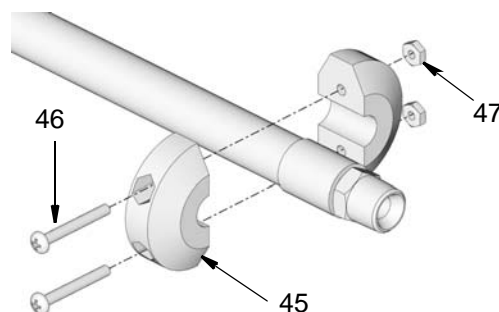

FIG. 18
4. Remove dispense valve, nuts (47), screws (46) and ball stop (45) from end of hose (FIG. 18).
4. Remove dispense valve, nuts (47), screws (46) and ball stop (45) from end of hose (FIG. 18). Cap end of hose (if needed) to prevent fluid spills.